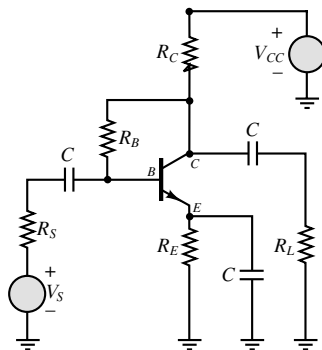

Figure P10.34
10.34 Shown in Figure P10.34 is a common-emitter amplifier stage implemented with an *npn* silicon transistor. The DC bias circuit connected to the base consists of a single resistor; however, it is connected directly between base and collector. Determine V_{CEQ} and the region of operation.